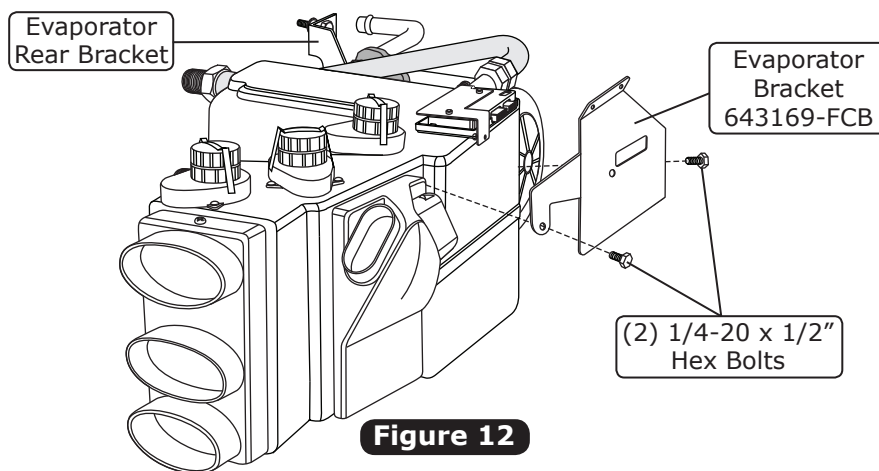

Figure 12
3. Install the front mounting bracket onto the evaporator using (2) 1/4-20 x 1/2" hex bolts (See Figure 12, below).